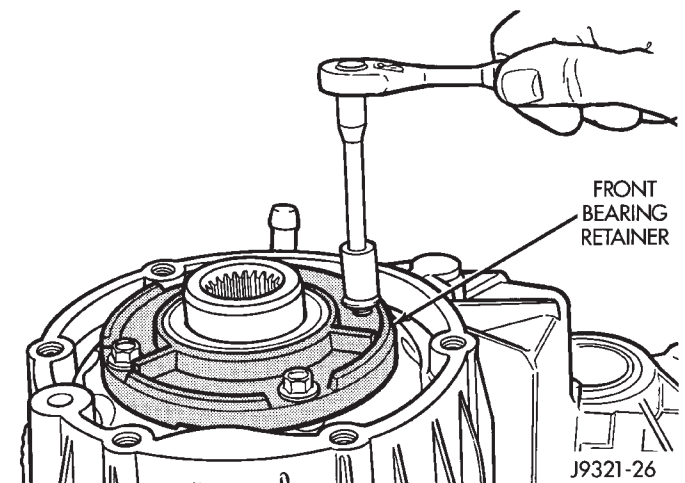
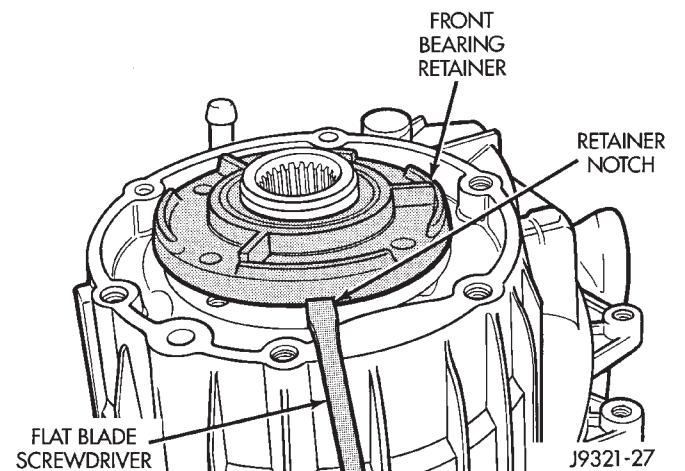

Fig. 31 Front Bearing Retainer Bolt Removal
Fig. 32 Front Bearing Retainer Removal
- (1) Turn front case on side so front bearing retainer is accessible.
- (2) Remove front bearing retainer bolts (Fig. 31).
- (3) Remove front bearing retainer as follows:
- (a) Loosen retainer with flat blade screwdriver to break sealer bead. **To avoid damaging case and retainer, position screwdriver blade only in slots provided in retainer (Fig. 32).**